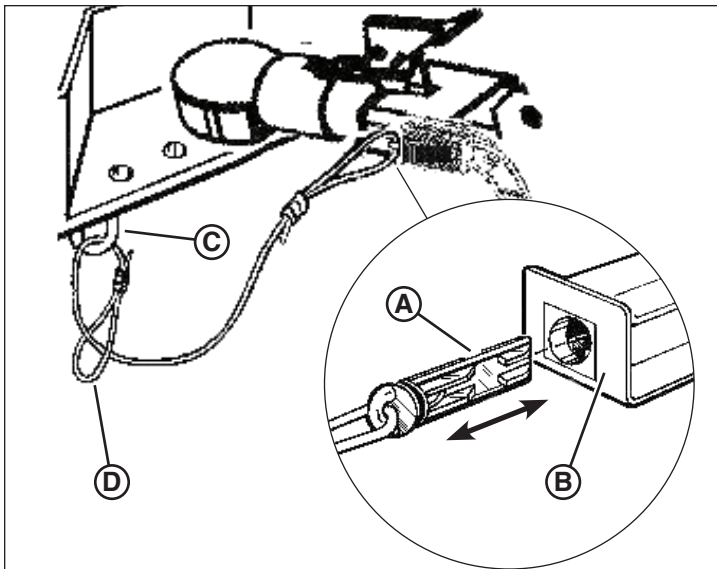

Figure 11
1. Pull the pin (A, Figure 11) out of the break-away brake switch (B).
3. Route the pin through the safety chain pocket (C, Figure 11), then through the break-away brake cable loop (D).